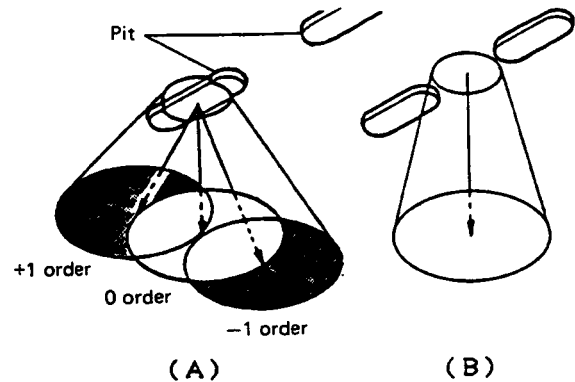

Fig. 2-2
(2) RF and servo signals
The beam, which has been reduced to an extremely small spot by the objective lens, now strikes the disc side on which the signal is located. Part of the beam is then reflected back to the objective lens and photo diode. A diagram showing how this beam is reflected off the disc is shown in figure 2-2. (A) shows what happens when the concentrated beam is directed at a pit. Normally, this reflected light would disrupt the output light beam. In the laser diodes used in CD players, however, noise is reduced instead, resulting in stable performance. This property is very advantageous for the half prism which allows only half of the light energy to pass.